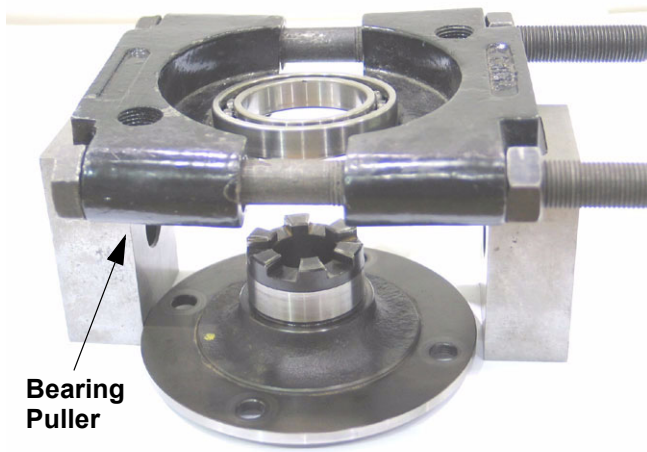

Figure 13.7
- 13.7. If it is necessary to remove the bearing, use a bearing puller. See Figure 13.7.